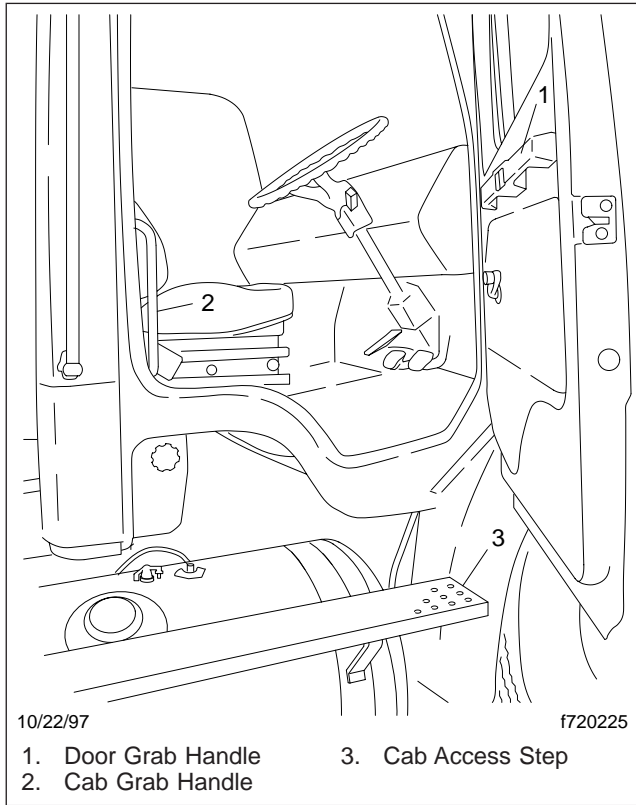

Fig. 2.4, Driver's-Side Step and Grab Handle (right-hand-drive vehicle)
4. On right-hand-drive vehicles equipped with a single access step, do the following (see Fig. 2.4):